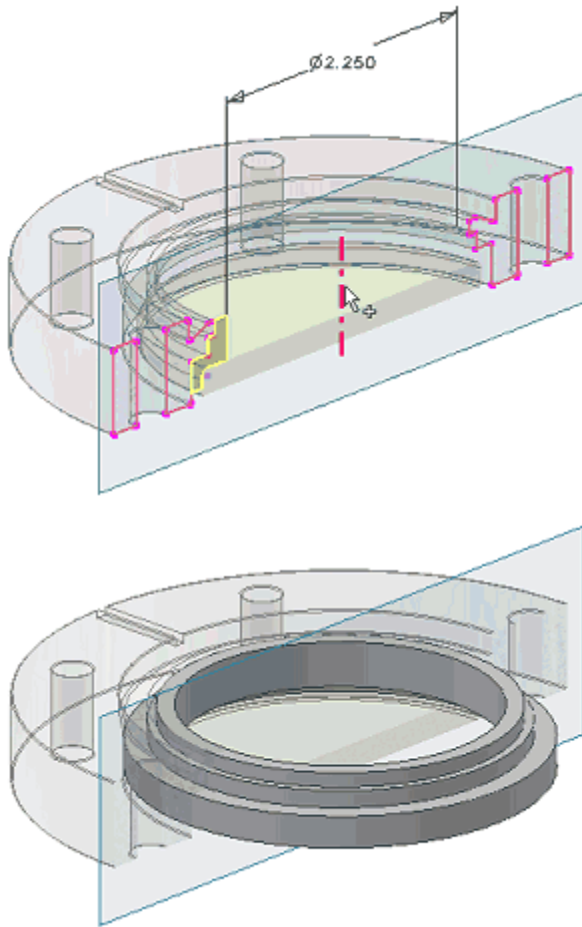

Figure 11: Revolved Feature.
10. Press the R key (R is a keyboard shortcut for the revolve tool). Select the profile highlighted in Figure 11 and select the centerline as the axis. Click OK to complete the revolved feature.